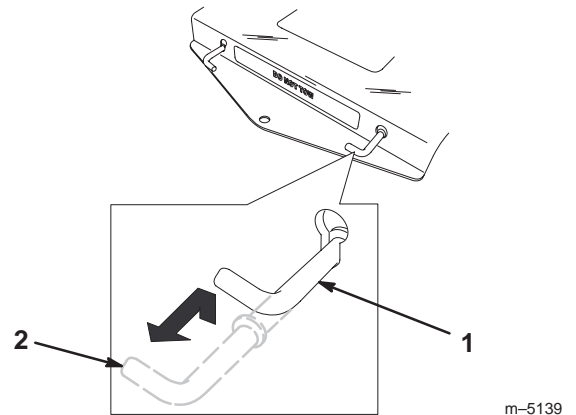

Figure 15
2. Pull the two bypass levers up and push them until the washer on the rod passes through the slot. Push the levers down to lock them in place (Fig. 15).
Pull each bypass lever up and pull them completely out. Push the levers down (Fig. 15).